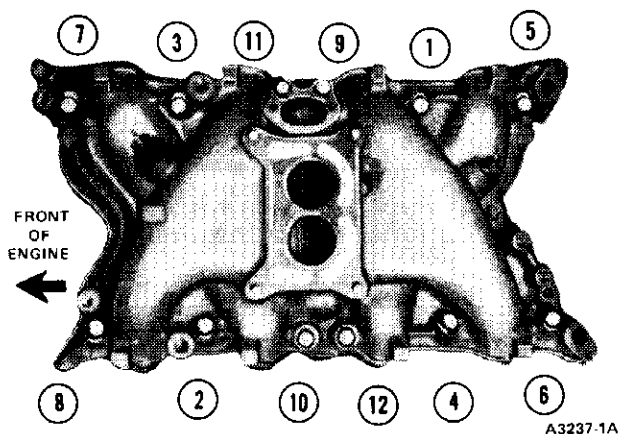

FIG. 15 Intake Manifold Torque Sequence
5. Be sure the holes in the manifold gaskets and manifold are in alignment. Install the intake manifold attaching bolts. Tighten the intake manifold bolts in three steps (Fig. 15).